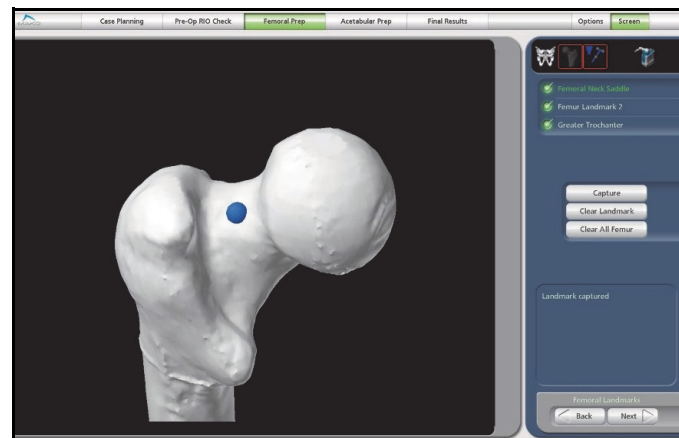

Figure 11. Femoral Landmarks Page
1. **Patient Landmarks:** Collect all femoral landmarks identified in the software within 5 mm using the probe (Figure 11). The placement of landmarks vary by surgical approach. These landmarks are identified pre-operatively in the 'Femoral CT Landmarks' page and are required to properly orient the femur.